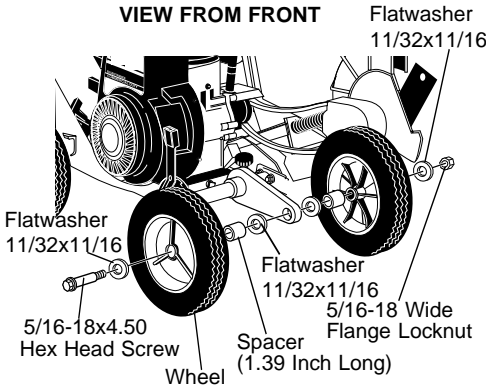

FIG. 5-ASSY
- Attach the front wheels to the Edger/Trimmer shown in **Fig. 5-ASSY** with a 5/16-18 x 4.50 inch hex head screw, four 11/32 x 11/16 inch flatwashers, two spacers and a 5/16-18 hex head wide flange locknut found in parts bag. Note position of wheels in **Fig. 5-ASSY**.